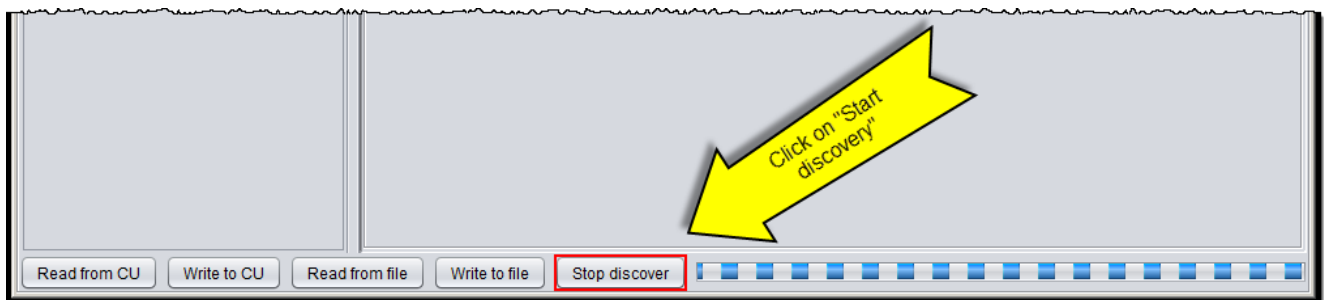

Figure 38: Start discover
1. If not done yet, click on “**Start discover**” button as shown in Figure 38 to put the CU in *Discovery* mode. In this mode the CU checks for new IDAMs or DAMs present in the system.
1. If not done yet, click on “**Start discover**” button as shown in Figure 38 to put the CU in discovery mode. In this mode the CU checks for new IDAMs or DAMs present in the system.